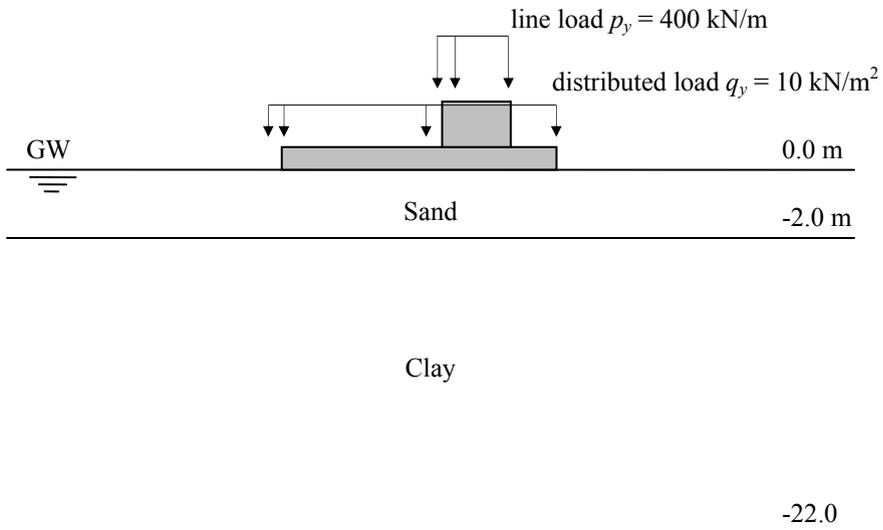

Figure 5.2 Cross-section of raft foundation: presentation of the soil layers
This raft foundation is constructed on a 2 m thick sand layer laying on top of a 20 m thick clay layer, as shown in Figure 5.2. Construction of the raft and wall is expected to take 30 days after which the structure is loaded with a distributed load  $q_y = -10 \text{ kN/m}^2$  distributed over the floor and a line load  $p_y = -400 \text{ kN/m}$  acting along the top of the walls.
- Add a borehole to the geometry and insert 1 additional layer boundary. Enter the layer boundary levels according to Figure 5.2.